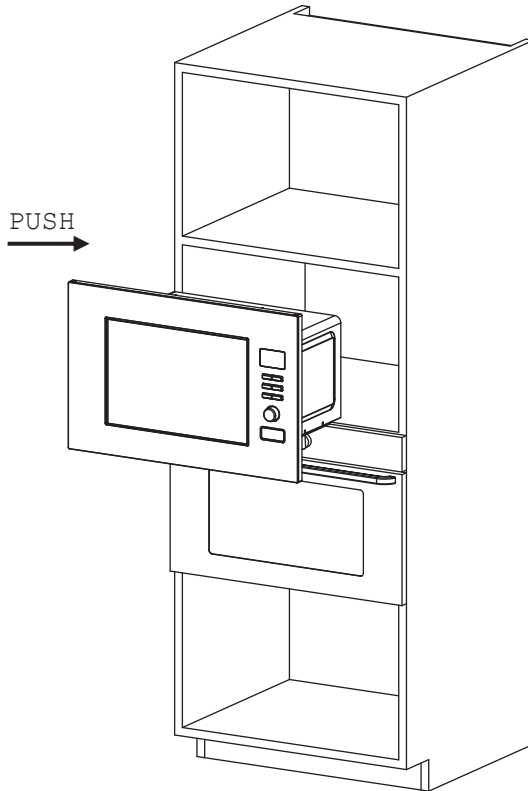

Fig.1
**② INSTALLATION:**
a) Put the microwave oven into built-in cabinet, and push it forward to the end. (Figure 1)